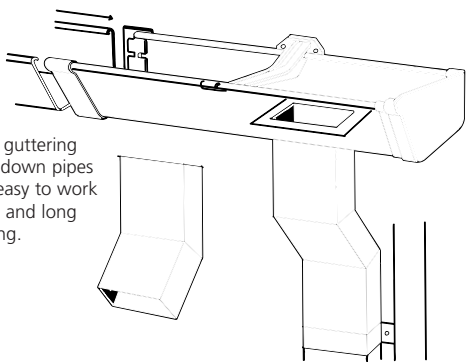

Fig 11 PVC guttering and down pipes are easy to work with and long lasting.
- PVC guttering and downpipes are simple to work with and provide a long lasting solution for projects like the carport (fig 11).